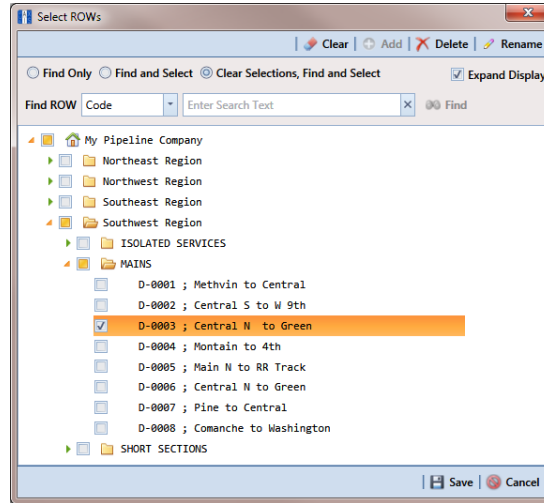

Figure 4-8. Select ROWs
- 1 Click **File > Select ROWs** to open the *Select ROWs* window. Select a pipeline in the hierarchy you want to delete (Figure 4-8).